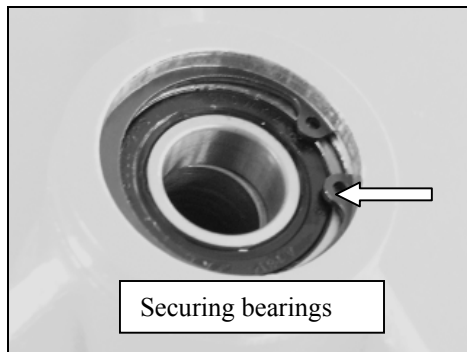

Fig. 101
- Check the spacer ring between the bearings (Fig. 101)